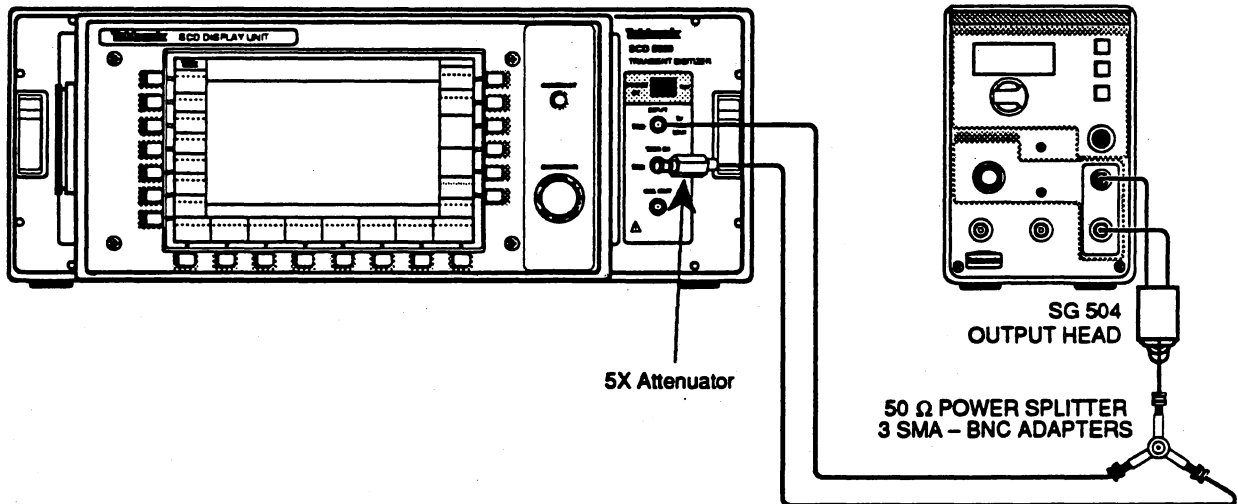

Figure 5-30: External Trigger Sensitivity and Jitter Calibration
The external trigger sensitivity calibration has four different parts: the External Low Frequency Trigger Sensitivity calibration, External Mid Frequency Trigger Sensitivity, the External High Frequency Trigger Sensitivity, and the External Trigger Jitter calibration. The setups for each of these parts is shown in Figure 5-30.
2. Connect the FG5010 output through a power divider and a 10 $\times$  attenuator to the SCD external trigger input as shown in Figure 5-30. Also connect the FG5010 output from the signal splitter to the channel A input.
7. If after at least 20 acquisitions the SCD can not acquire with a stable trigger point, adjust R89 (TR) 30° counterclockwise and repeat the Low Frequency External Sensitivity trigger tests.